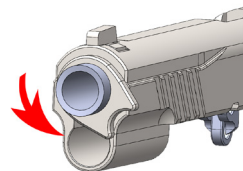

Figure 33
- Rotate the barrel bushing counter-clockwise – Figure 33.